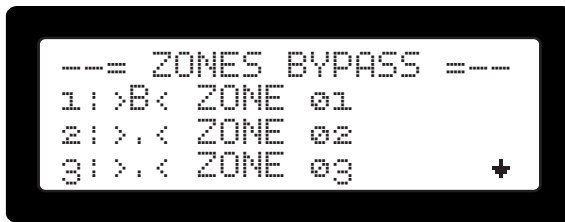

Figure 13. Bypassed zones activation screen
- Press **<2>** to select menu item **[2. Bypass Zones]**: The list with all available zones is displayed (see Figure 13).